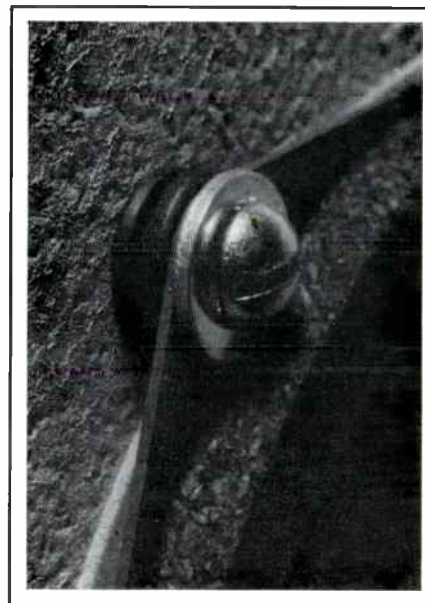
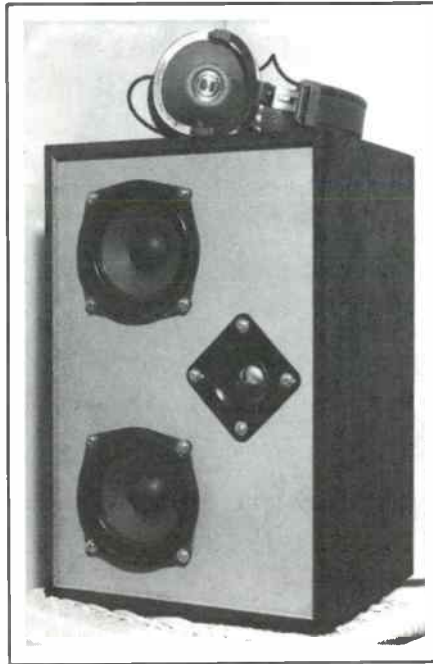

FIGURE 1: An Audax 5¼" driver mounts more easily with a rubber grommet. Notice the wrinkle finish paint on the baffle board.
FIGURE 2: The rubber grommet mounts have worked reliably on several of Gold Sound's System One kits.
1. Rubber grommets made for running wires through chassis openings are handy for mounting Audax and other drivers on which the mounting tabs do not rest directly on the baffle surface (Fig. 1). The appropriate size grommet keeps the cabinet airtight when using T-nuts to mount the drivers. I built some Gold Sound System One kits, which utilized Audax 5¼" units, over a year ago using the grommets as spacers and seals. The cabinets have remained airtight with no evidence of problems with vibration or the aging of the rubber (Fig. 2).